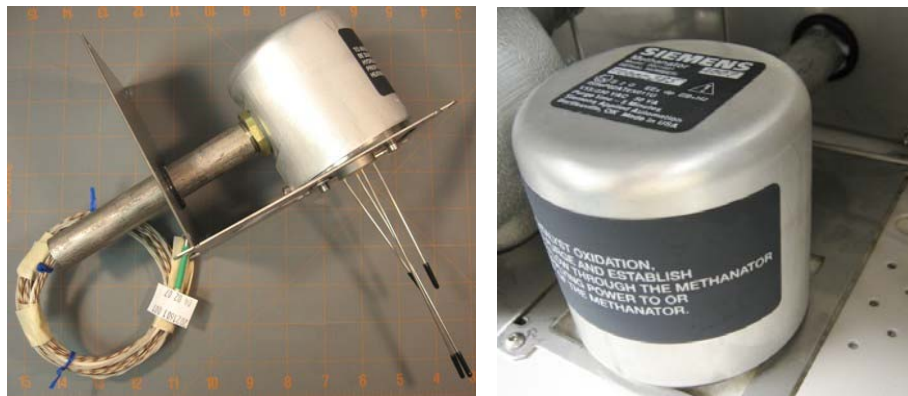

Figure 2-52: Methanator
The methanator (figure 2-52) is used with a Flame Ionization Detector (FID) when it is necessary to detect carbon monoxide (CO) or carbon dioxide (CO2). In the methanator CO and CO2 are chemically changed to methane using excess hydrogen and a catalytic reaction. The concentration of methane, which can be detected using an FID, is proportional to the concentration of CO and CO2. In this manner, it is possible to detect CO and CO2 using an FID.